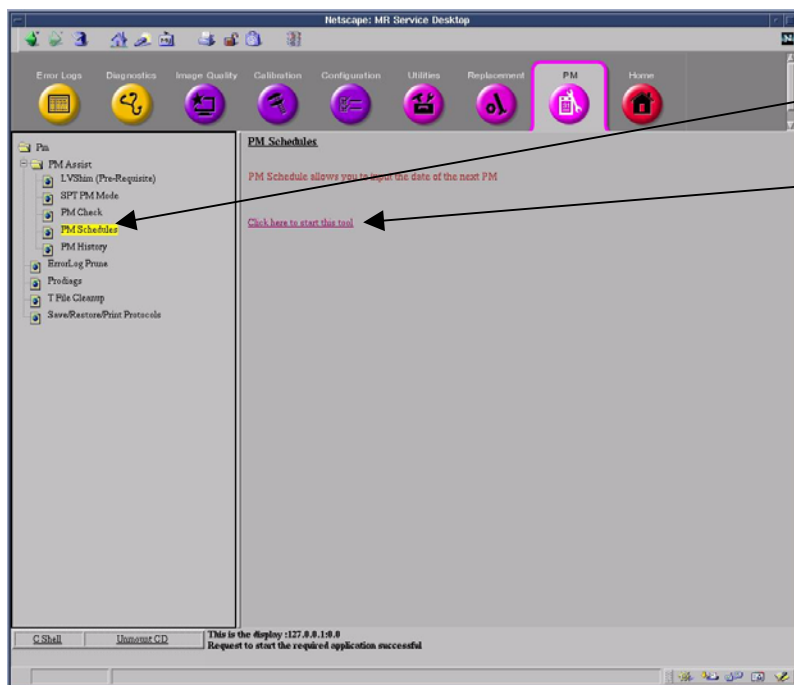

Figure 33a
1. Click on "PM Schedules" in the expanded PM folder. See Figures 33a and 33b. The right side of the screen will provide more details about PM Schedules and a link to start the PM Schedules tool.
2. Click on the link: "Click here to start this tool" (shown in Figure 33a) to start the PM Schedules tool.